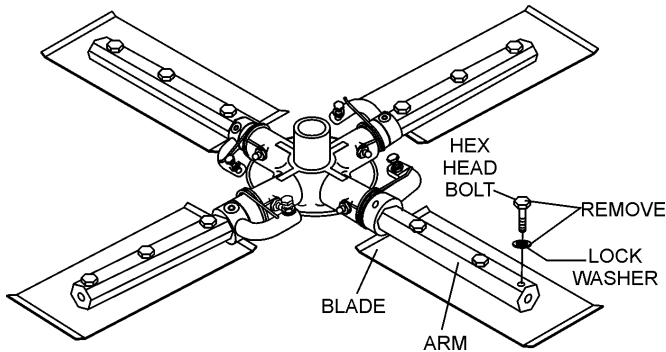

Figure 42. Trowel Blades
1. Remove the trowel blades from the trowel arm by removing the three hex head bolts (Figure 42) from the trowel arm. Set blades aside.